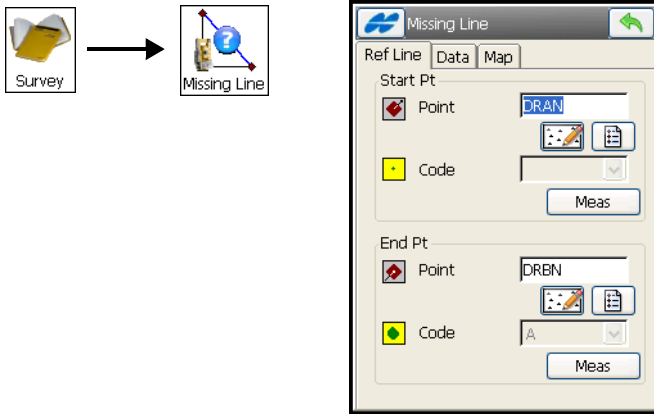

Figure 8-57. Missing Line – Ref Line Tab
1. To start working, tap **Survey ► Missing Line** (Figure 8-57 on page 8-57).
2. Enter the *Start* and *End* points names and codes (Figure 8-57). To measure the point, tap the **Meas** button in the corresponding field.